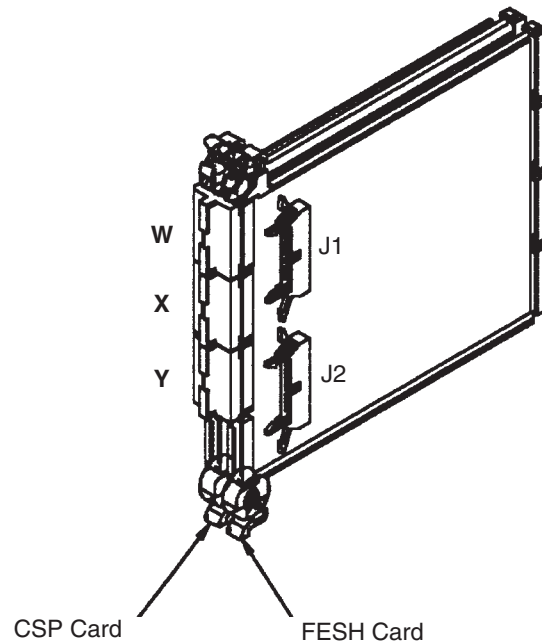

Figure 4-49. FESH Card
5. Referring to Figure 4-49, exchange the FESH card as follows: